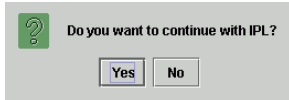

Figure 66 IPL Confirmation dialog box
1. Select **IPL** from the **Configure** menu on the menu bar. The IPL Confirmation dialog box appears, as shown in Figure 66.